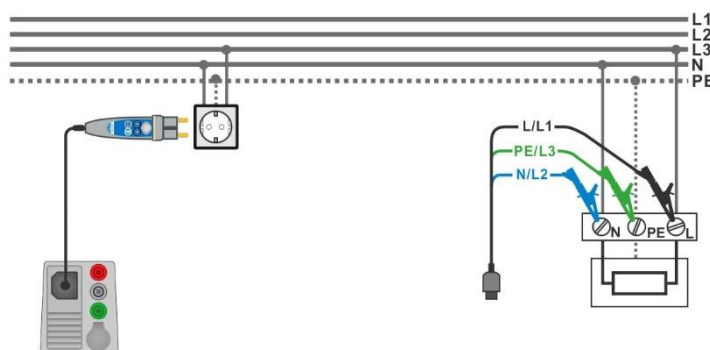

Figure 7.40: Connection of Plug commander and 3-wire test lead
- › Connect 3-wire test lead or Plug commander to the object under test, see **Figure 7.40**.